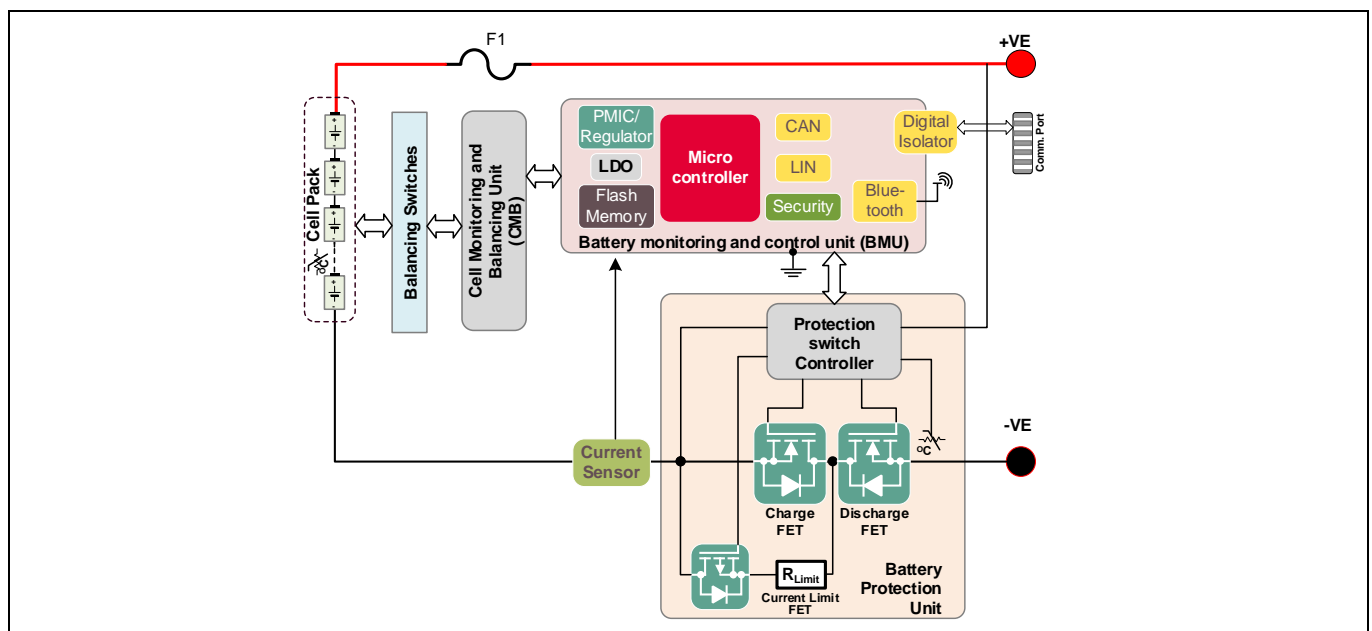
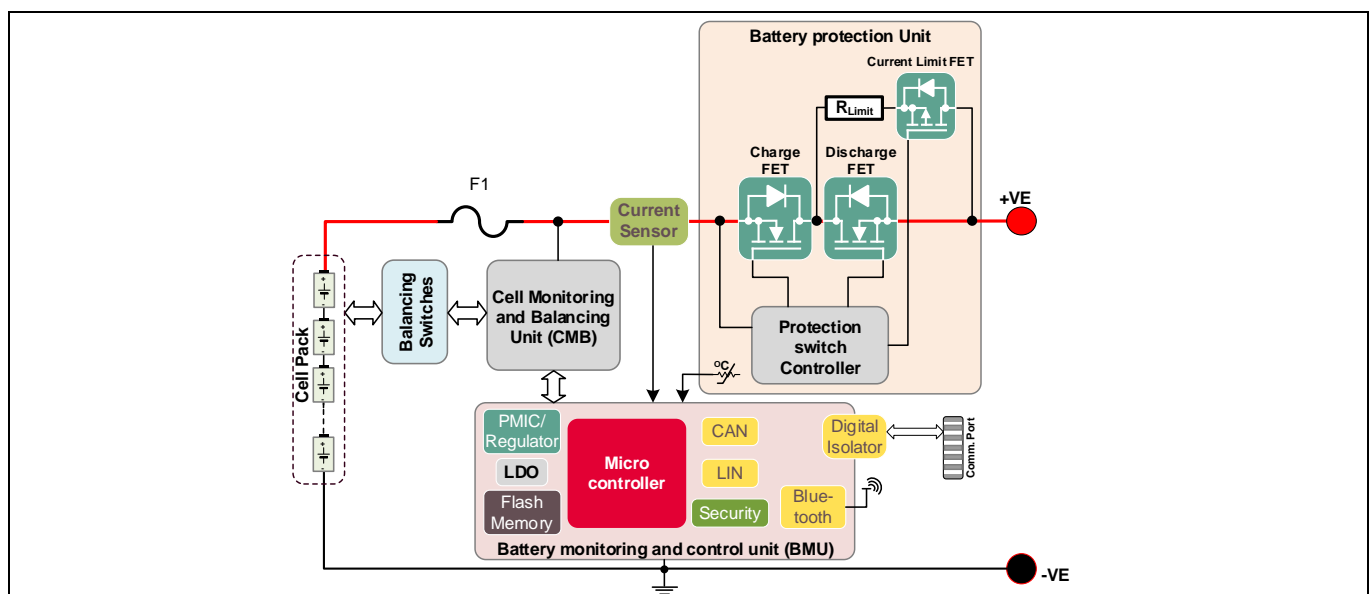

Figure 1 LS protection switch
Figure 2 HS protection switch
Protection can be implemented by connecting a MOSFET either on the positive rail or on the negative rail of the source (e.g., a battery). **Figure 1** and **Figure 2** show the low-side (LS) and high-side (HS) switch configuration in the high-level block diagram of the BMS.